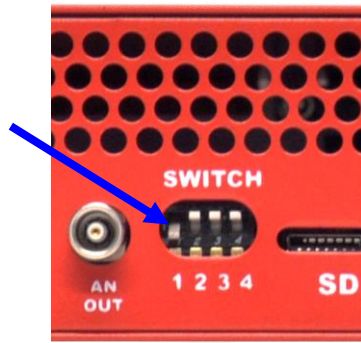

Figure 20: SWITCH position for normal use
- Set the SWITCH #1 on the rear panel to be positioned low, as illustrated in Figure 20;